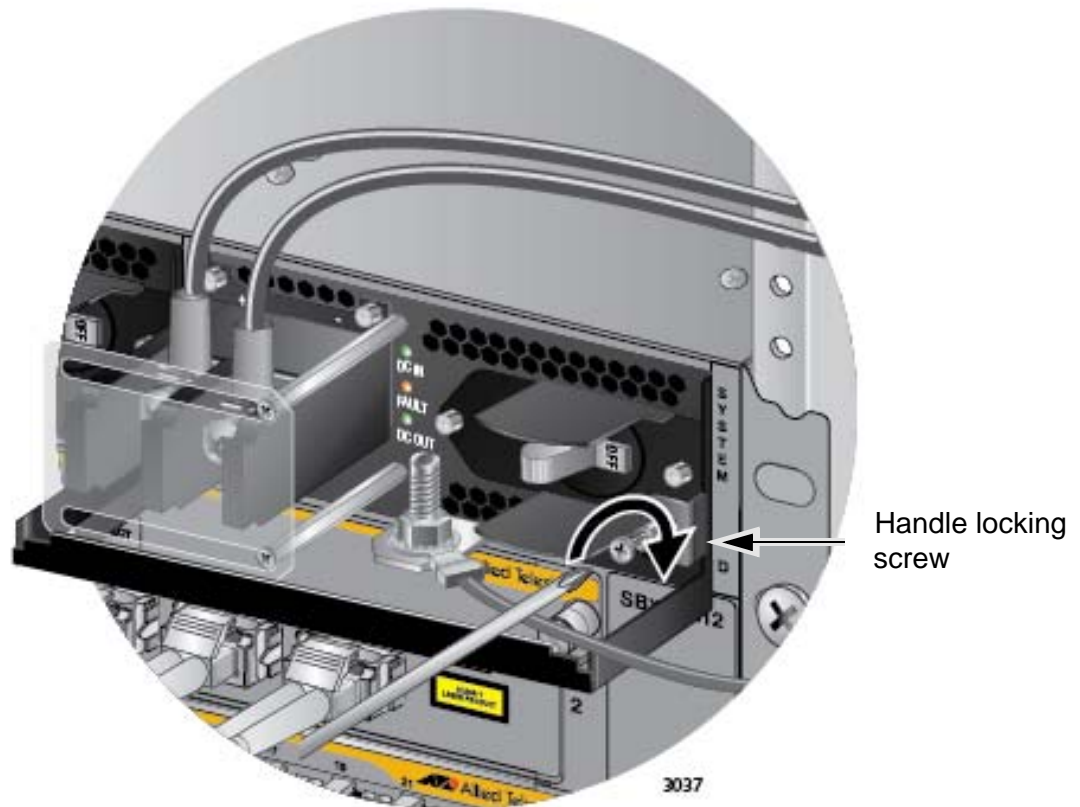

Figure 137. Tightening the Handle Locking Screw
9. With a #2 Phillips-head screwdriver, tighten the handle locking screw to secure the power supply to the chassis. See Figure 137 on page 211.
7. With a #2 Phillips-head screwdriver, tighten the handle locking screw to secure the power supply to the chassis. See Figure 137 on page 211.